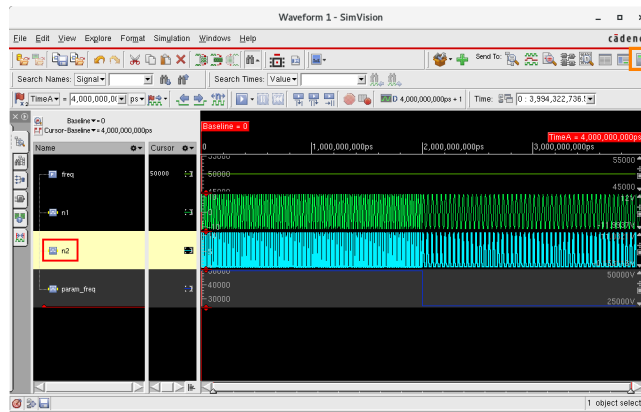

Figure 23: Send waveforms to calculator
9. The waveform window can show us the voltages on every node of our circuit. If, for example, you want to calculate the power dissipated in the resistor of 100 Ω , you can use the expression calculator. We will do this in two different ways. First we will use the voltage over the resistor. This is nothing more than the $n2$ signal. Select the $n2$ signal by clicking at the location of the red box in Figure 23. Then click on the icon of the calculator indicated by the orange box in the upper right corner of Figure 23.